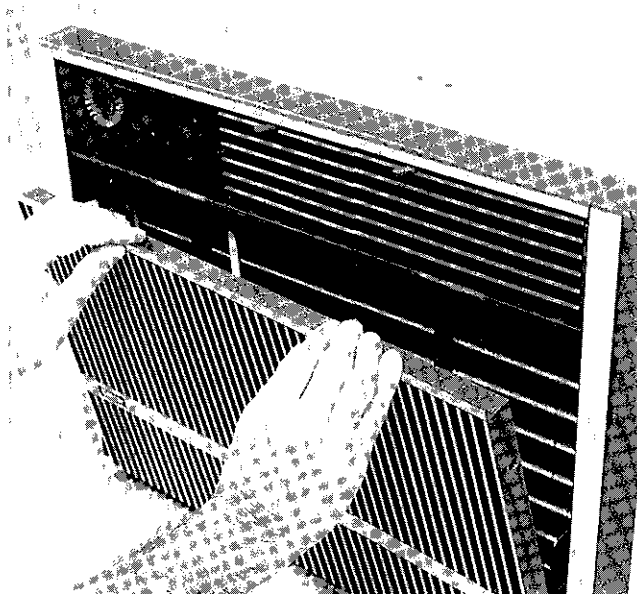

Fig. 2 — Removing Grille Insert
- 1 **Grille** — Decorative front grille insert is removed by gripping top of insert and pulling outward while lifting insert from grille frame. See Fig 2.